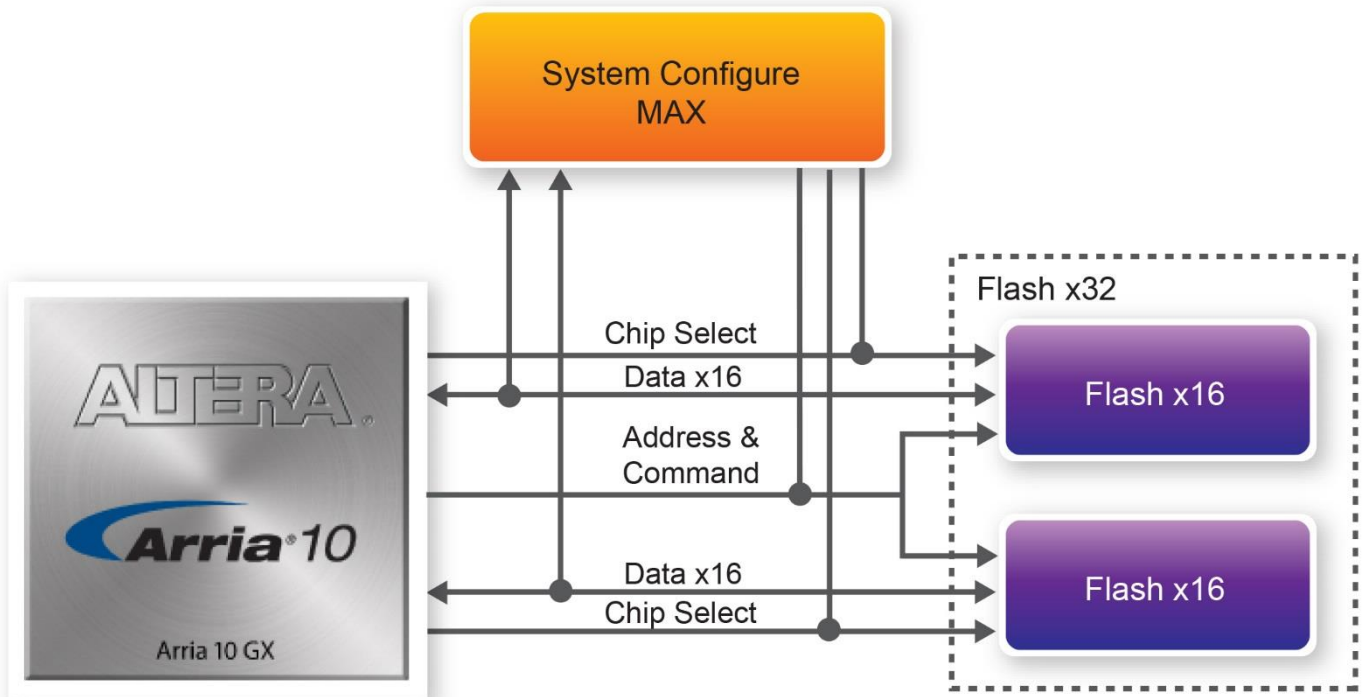

Figure 2-13 Connection between the Flash, Max and Arria 10 GX FPGA
Each interface has a 16-bit data bus and the two devices combined allow for FPP x32 configuration. This device is part of the shared flash and MAX (FM) bus, which connects to the flash memory and MAX V CPLD (5M2210) System Controller. **Figure 2-13** shows the connections between the Flash, MAX and Arria 10 GX FPGA.